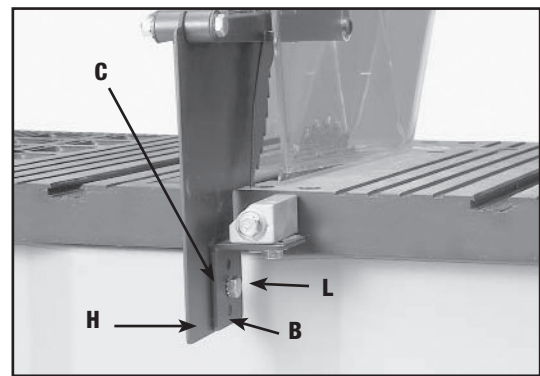
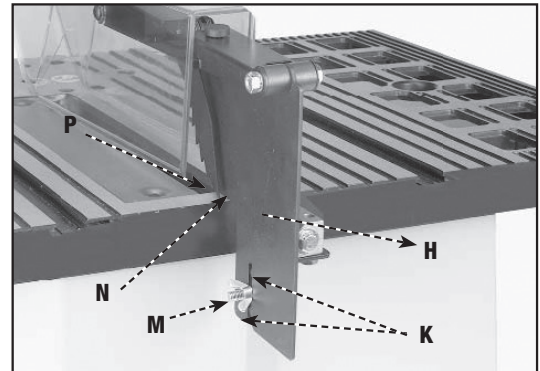

Fig. 14
Fig. 15
6. Attach the splitter (H) Fig. 14 to the splitter support bracket (B). Place a 1/4" external tooth lockwasher and an M6.4 flat washer on an M6x1x20mm hex head screw (L).
7. Insert the screw (L) Fig. 14 through the splitter support bracket (C) and the splitter (H). Place an M6.4 flat washer and a 1/4" external tooth lock washer on the screw (L). Thread an M6x1 wing nut (M) Fig. 15 on the screw (L) Fig. 15.
NOTE: Before tightening the wing nut (M) Fig. 15, make certain a gap of at least 1/8" is between the bottom edge of the splitter (N) and the top surface of the table (P) and that the protrusions (K) are inside the slot of the splitter assembly (H).